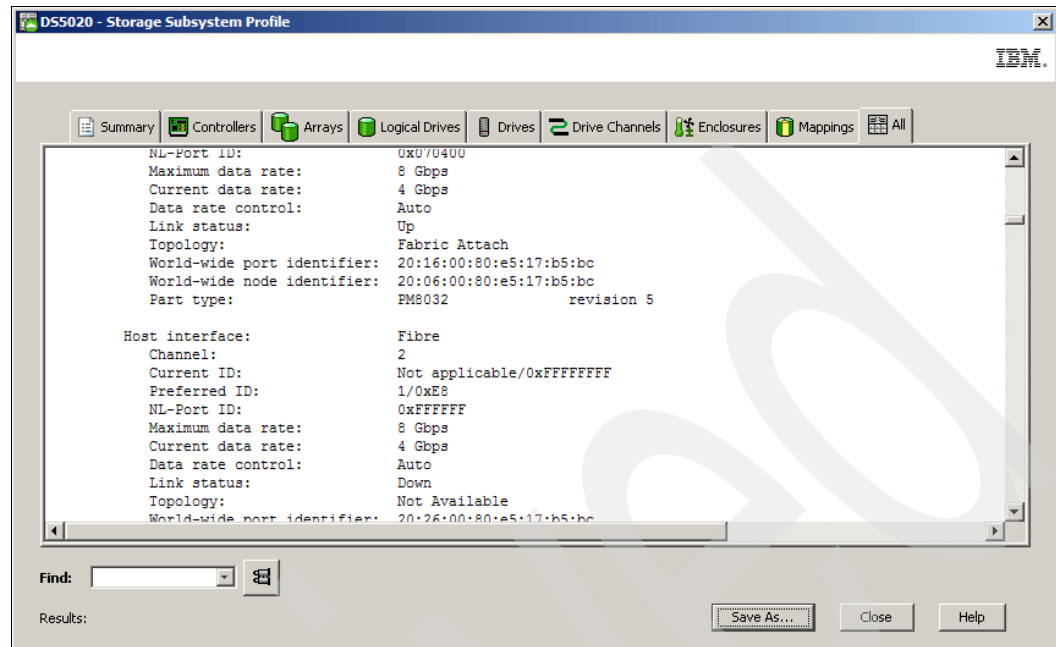

Figure 10-45 Storage Subsystem Profile View
- The Storage Subsystem Profile opens as shown in Figure 10-45.